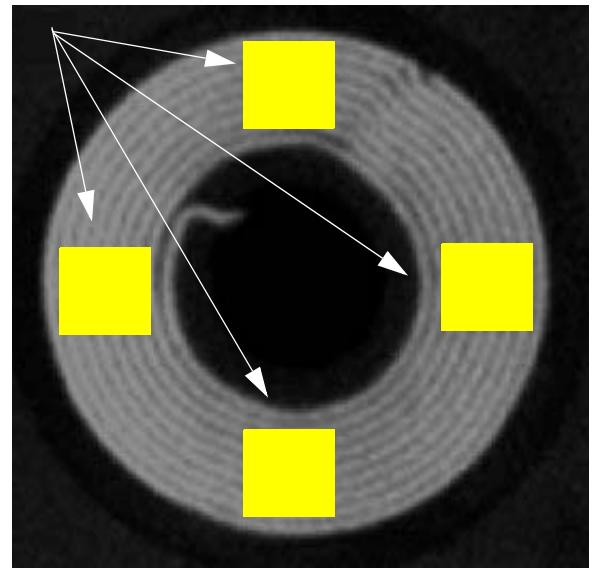

Figure 7-113
- 5.) At the four locations (top, right, bottom, left) on each coil, place ROIs (Figure 7-113). Ensure that each ROI is completely within coil pattern, especially the Z-direction.